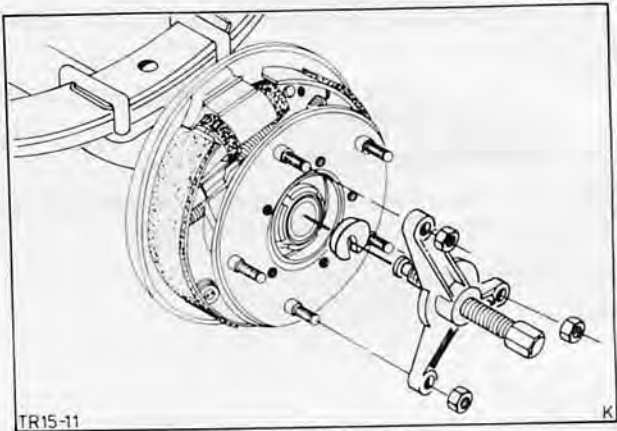

Fig. 17. Remove hub with special tool no. 15-060 ('F' axle shown)
3. Remove wheel hubs using Special Tool No. 15-060 after releasing locknuts, Fig. 17.